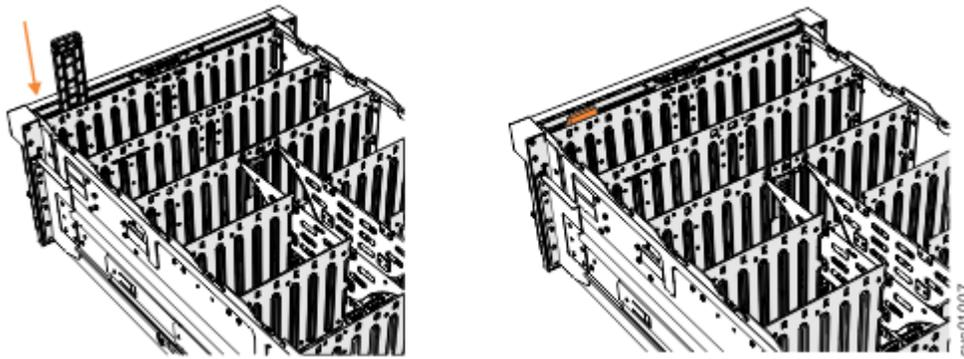

Figure 131. Installing the display panel assembly
2. Carefully align the display panel assembly in the slot at the front of the expansion enclosure, as shown in Figure 131 on page 121.